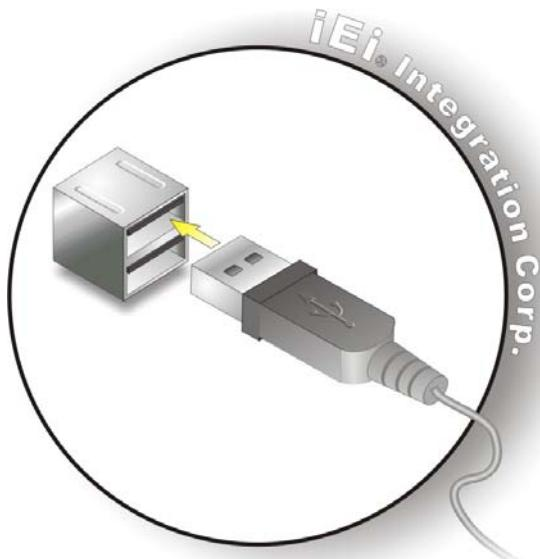

Figure 4-14: USB Connector
**Step 2:** Insert a USB Series "A" plug. Insert the USB Series "A" plug of a device into the USB Series "A" receptacle on the external peripheral interface. See **Figure 4-14**.